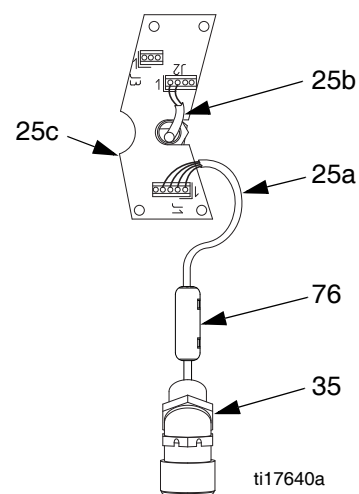

FIG. 29. Circuit Board Wire Connections
- a. See FIG. 29. Disconnect the transducer cable (25a) from J1 on the circuit board (25c). Remove and retain the ferrite (76).
- c. Disconnect the IS circuit field wires from J2 and J3 on the circuit board, and from the two terminal blocks (46). Disconnect the position sensor wires from the two terminal blocks. Retain the terminal blocks.
- e. Unscrew the conductive strain reliefs (74a and 35) from the gear housing. Pull the 45° strain relief (35) and the transducer conduit out of the housing. Do not disconnect the transducer from the outlet port (P).
- f. Disconnect the position sensor and attaching parts from the gear housing (1). See page 22. Be sure to remove the position sensor adapter (78). Retain these parts.
11. Unscrew the locknuts (15) from the tie rods (3). Remove the entire fluid section. Unscrew the tie rods (3) from the gear housing.